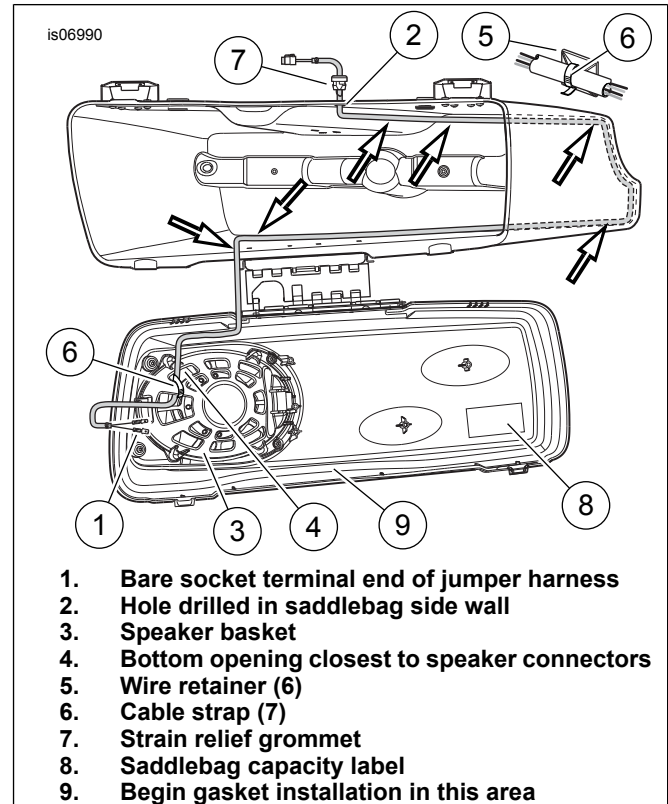

Figure 4. Harness Routing Inside Saddlebag
- Begin gasket installation in the center of the inboard side of the lid, opposite the hinge (see Figure 4, Item 9).
2. With the large end facing the six-way pin housing (1), snap the grommet onto the harness conduit near the pin housing.
3. See Figure 4. Insert the bare socket terminal (1) end of the jumper harness, from the outside, through the 16 mm (0.62 in) diameter hole (2) drilled in the saddlebag side wall earlier. Route the harness: